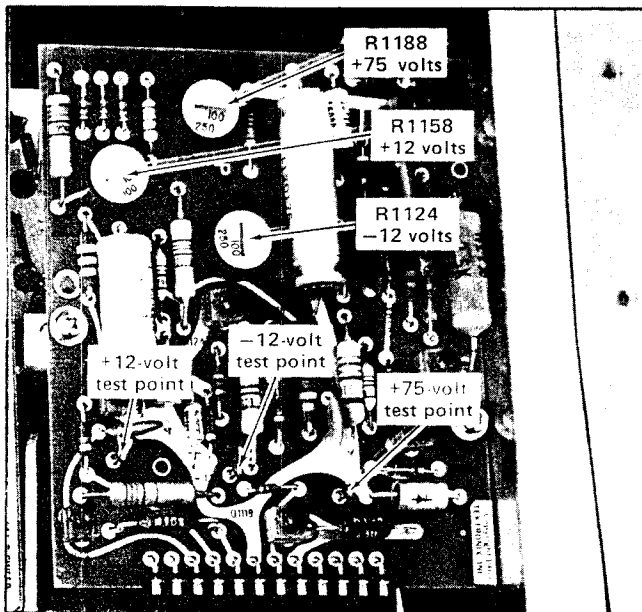

Fig. 5-3. Low-voltage power supply test points and adjustments (Low-Voltage Regulator circuit board).
d. ADJUST— -12 Volts adjustment R1124 (see Fig. 5-3) for -12 volts, ± 0.0032 volt.
d. ADJUST— +12 Volts adjustment R1158 (see Fig. 5-3) for a meter reading of +1 volt (± 0.003 volt).
f. Connect the precision DC voltmeter between the +12-volt test point on the Low-Voltage Regulator circuit board and chassis ground. See Fig. 5-3.
a. Connect the precision DC voltmeter between the +75-volt test point on the Low Voltage Regulator circuit board (see Fig. 5-3) and chassis ground.
c. ADJUST— +75 Volts adjustment R1188 (see Fig. 5-3) for a meter reading of +75 volts (± 0.278 volt).
- c. CHECK—Two millivolts (0.4 division) peak-to-peak maximum line-frequency ripple on the -12-volt, +12-volt, and +75-volt supplies while changing the autotransformer output voltage throughout the regulating range selected by the Line Voltage Selector assembly on the rear panel. Power-supply test points are shown in Fig. 5-3.